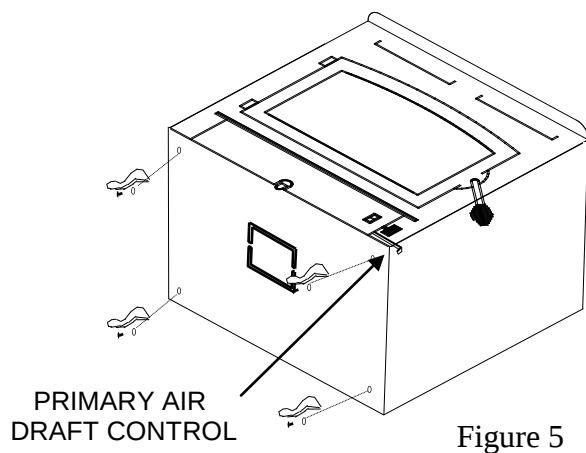

Figure 5
3. Check primary air draft control to ensure that it slides freely.(See Figure 5).
5. **(Leg Kit):** If legs are to be used, obtain four legs, attach legs to holes in bottom of unit with bolts and washers supplied with leg kit. (See Figure 5).